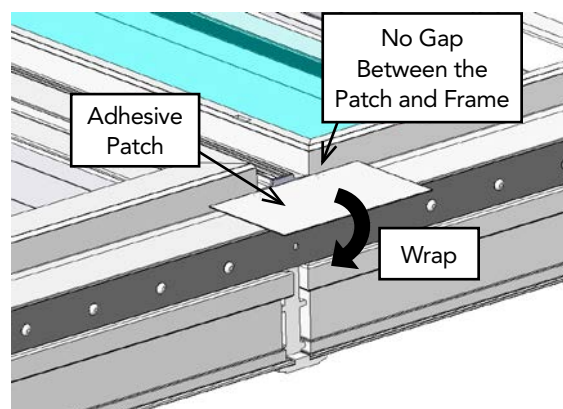

Figure 23
27. Clean area of excess caulk where patch will be applied. Apply the supplied adhesive patch across the end plug and nailing fin, against the frame, making sure the patch overlaps the end plug on both sides (**Figure 23**). Press the patch down firmly and wrap the excess around the nailing fins tightly.